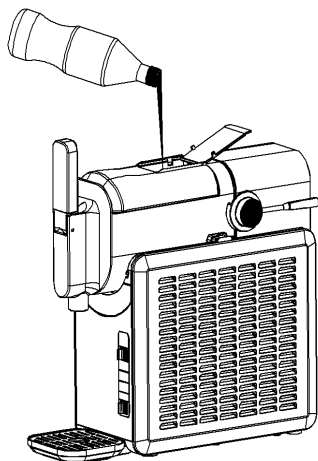
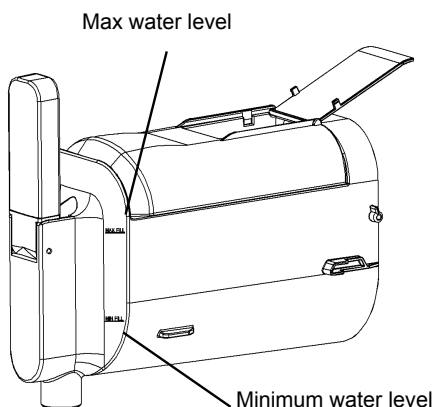

Figure 1
Figure 2
2. Open the feeding barrel lid, then slowly pour liquid into the barrel (see Figure 1). Ensure the liquid level is between the minimum and maximum markers (see Figure 2).